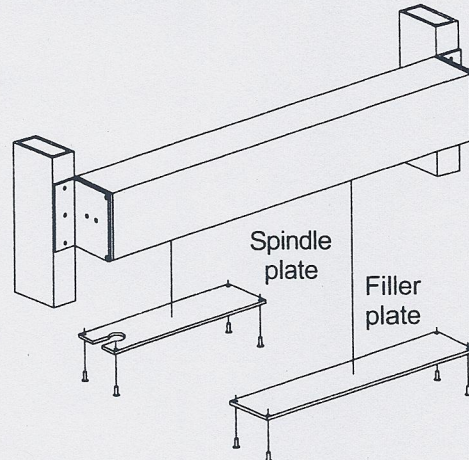

Figure 15-2
- 15.2. Install spindle plate and filler plate (Figure 15-2). Spindle plate cutout fits over operator spindle.